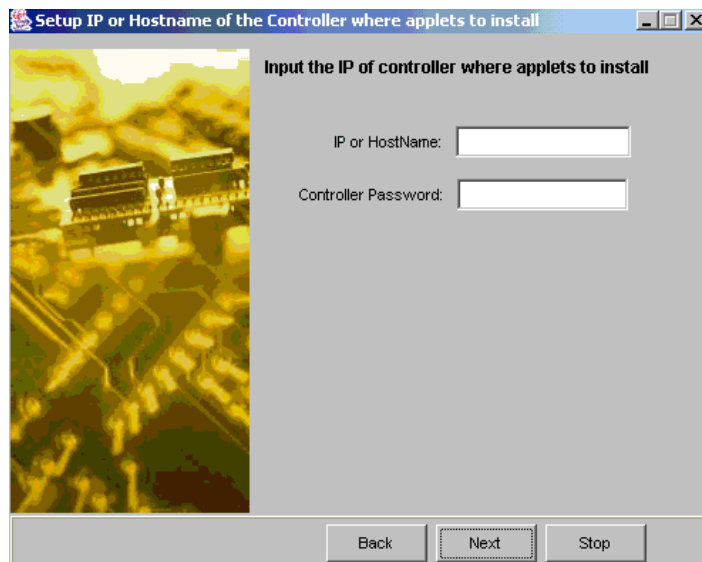
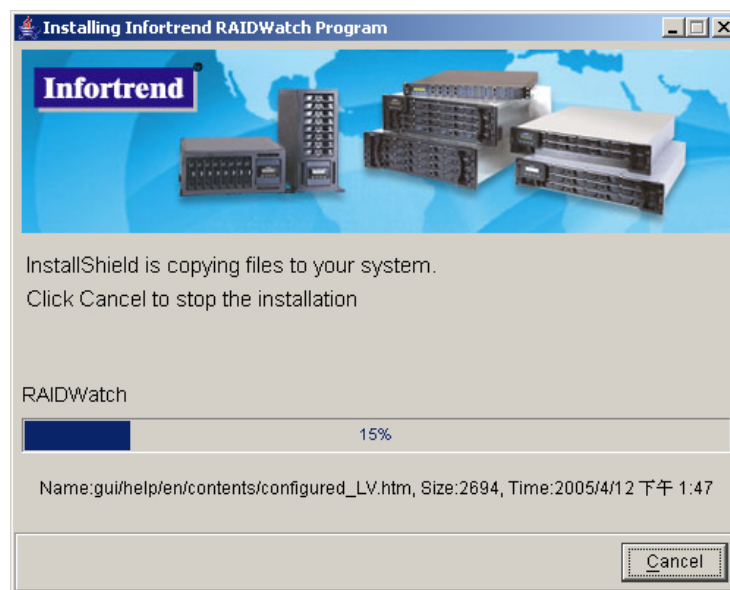

Figure 3-13: Input IP and Controller Password
Figure 3-14: Installing Active
-  **Step 1.** As shown in *Figure 3-13* above, enter the IP address or the host name of the controller/subsystem and the controller password in their respective fields. The default for the controller/subsystem IP or password is blank. The preset IP and password should have been configured along with other configuration utilities before proceeding with the RAIDWatch installation.
-  **Step 2.** If the *Next* button from *Figure 3-13* was selected, the Install Active window shown in *Figure 3-14* will appear. If you wish to stop the installation procedure, then click the *Cancel* button. If you wish to continue installing the Applet components, allow the installation shield to continue through the rest of the procedure.
**Step 4.** If you wish to immediately access the RAIDWatch manager, open a web browser and type in the IP address that you used in *Figure 3-13*.
where **www.xxx.yyy.zzz** is the IP address entered in *Figure 3-13*.